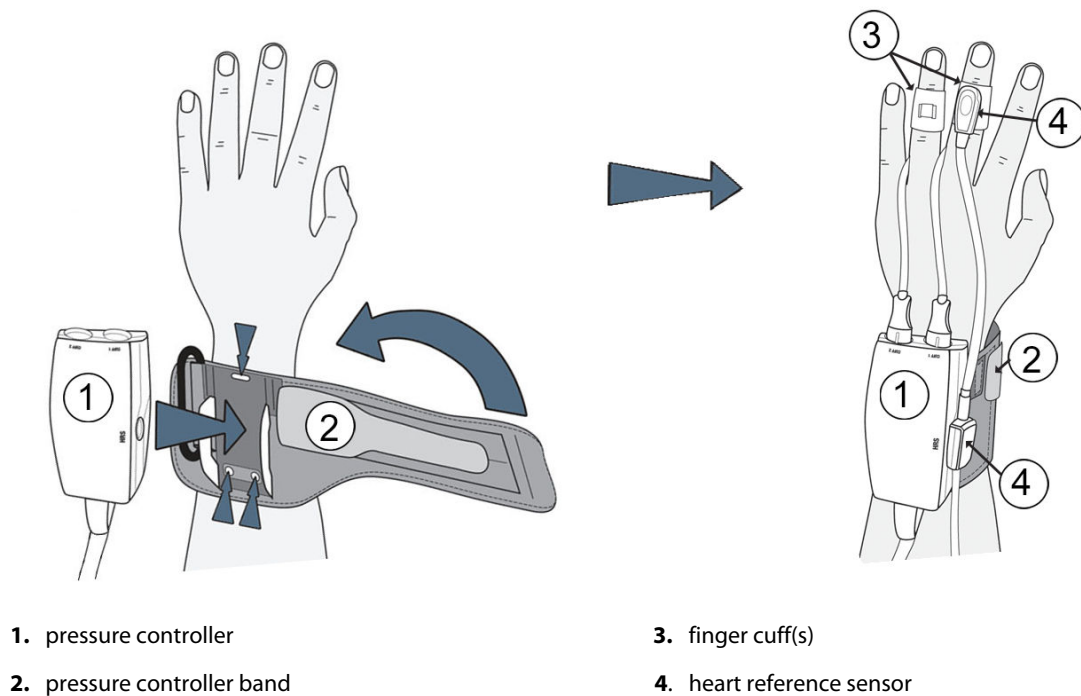

Figure 11-2: Pressure controller application
The pressure controller is worn on the patient's wrist and connects to the HemoSphere ClearSight module, HRS and finger cuff(s). See Figure 11-2 on page 205.
1. Wrap the pressure controller band around the patient's wrist. The non dominant hand is preferred for monitoring in awake patients. (Figure 11-2 on page 205, left)